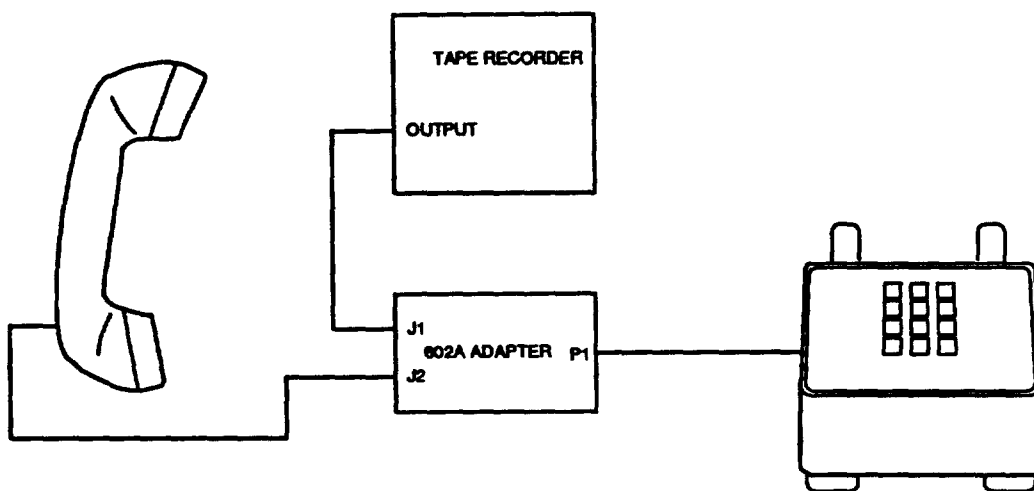
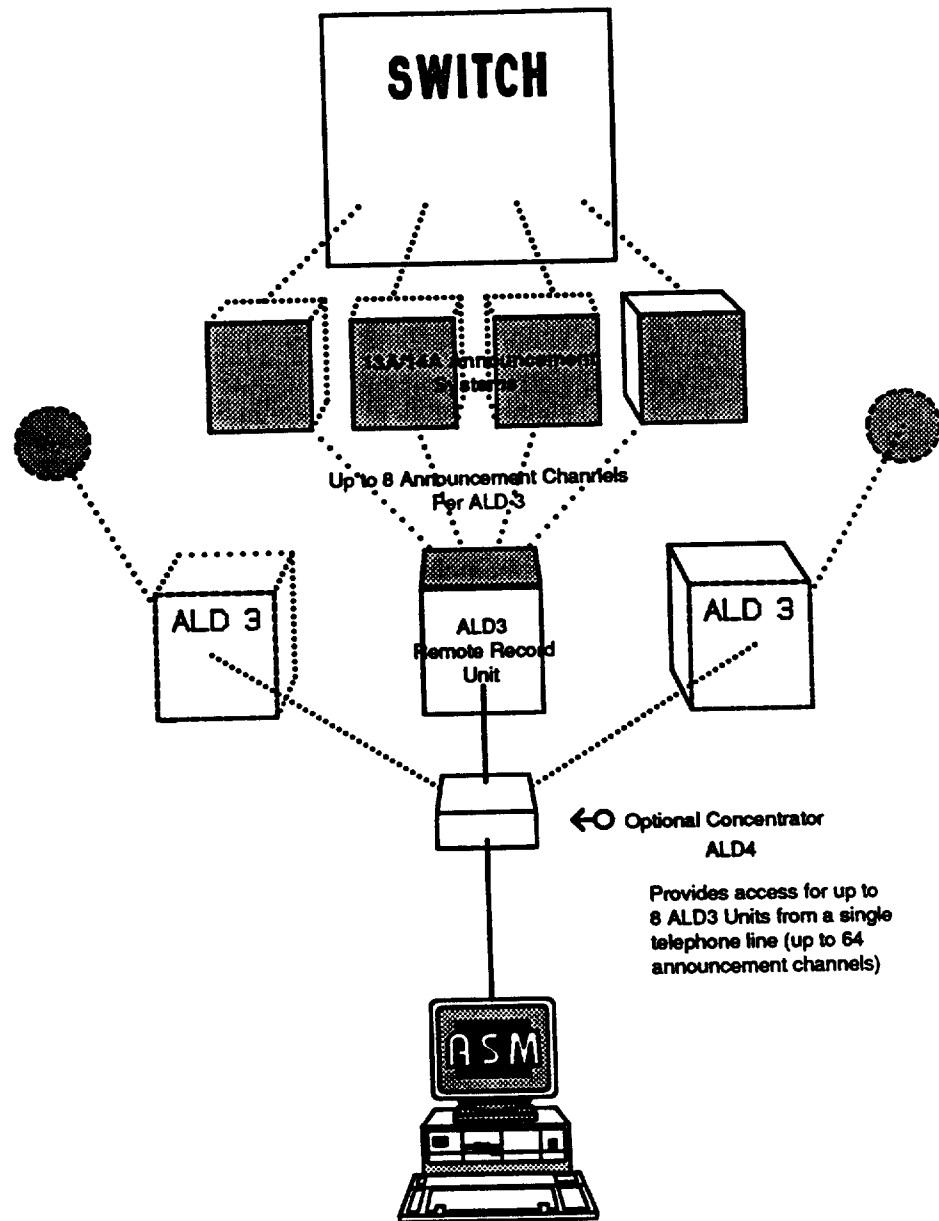

Figure 2. 602A Telephone Tape Recorder Adapter (Tape Dubbing of Announcement Remotely)
Figure 3. ASM/RRU Architecture
1.09 Recordings can be made live via the telephone handset, or they can be dubbed from tape using the 602A Telephone Tape Recorder Adapter (J1C259A-1 List 5) (Figure 2). The Remote Record Unit (ALD3) as well as the Concentrator (ALD4) circuit, can also be utilized as a subsystem to the AT&T Announcement Systems Manager (ASM) PC based workstation. ASM features include a Speech File Manager that allows digitally encoded storage of messages, a Database manager that allows efficient recordkeeping and storage of all information associated with announcement channels, and a Remote Record Interface that allows downloading of stored messages to either a 13A, 13A+, or a 14A Announcement System from a central location. See Figure 3 for ASM/RRU architecture.
2.07 The components of the Announcement systems (13A, 13A+, or 14A) that interface to the ALD3 can consist of more than one channel type. Each channel type varies in its message storage capacity. Table A contains the maximum message length that can be stored on each channel type for a given system. Special Information Tones (SIT) generated by the ALD2 and ALD5 circuit packs may also be incorporated remotely if desired. SITs, if desired on a 13A or 13A+, must be recorded along with the announcement by use of a cassette tape, tape recorder, and the 602A Telephone Tape Recorder Adapter (J1C59A-1 List 5) (Figure 2).
2.10 See Table E for DIP switch representations and Figure 3 for DIP switch location. See Table F and Table G